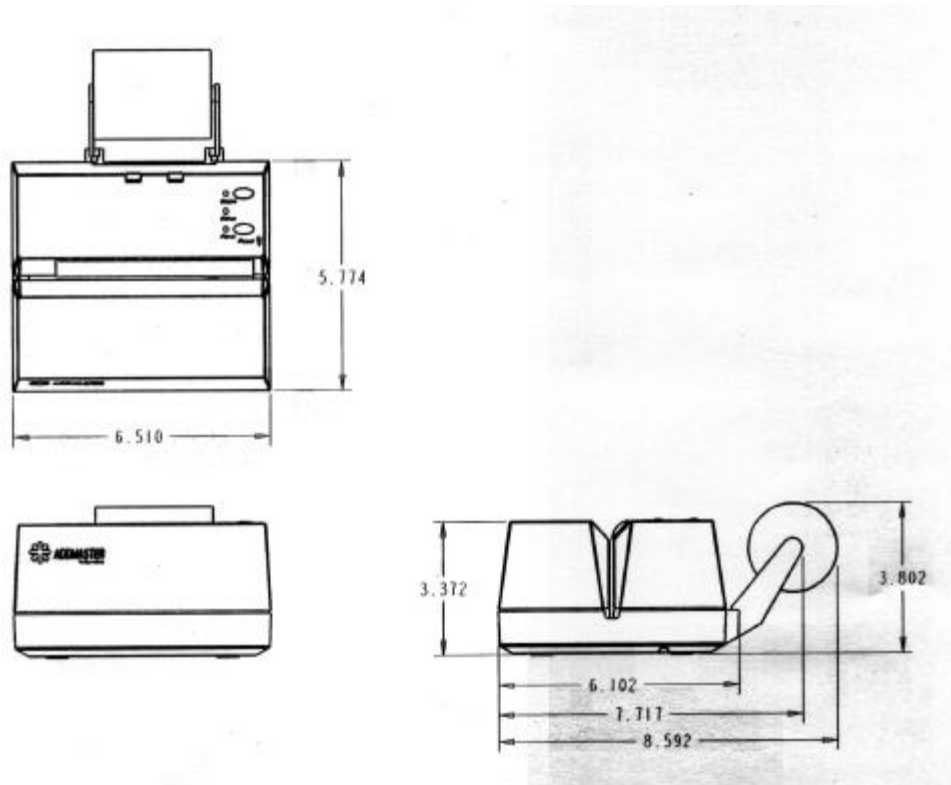

Figure 6.1 Outline Dimensions: Side View
Dimensions	6.51" (W) by 3.37" (H) by 6.10" (D) See Figure 6.1.